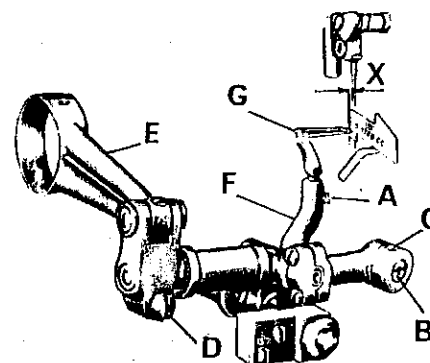

fig.11
- S. 1708.00 for all operations of chain stitch (fig. 11/12)
### 7. Chain stitch looper timing (fig. 11).